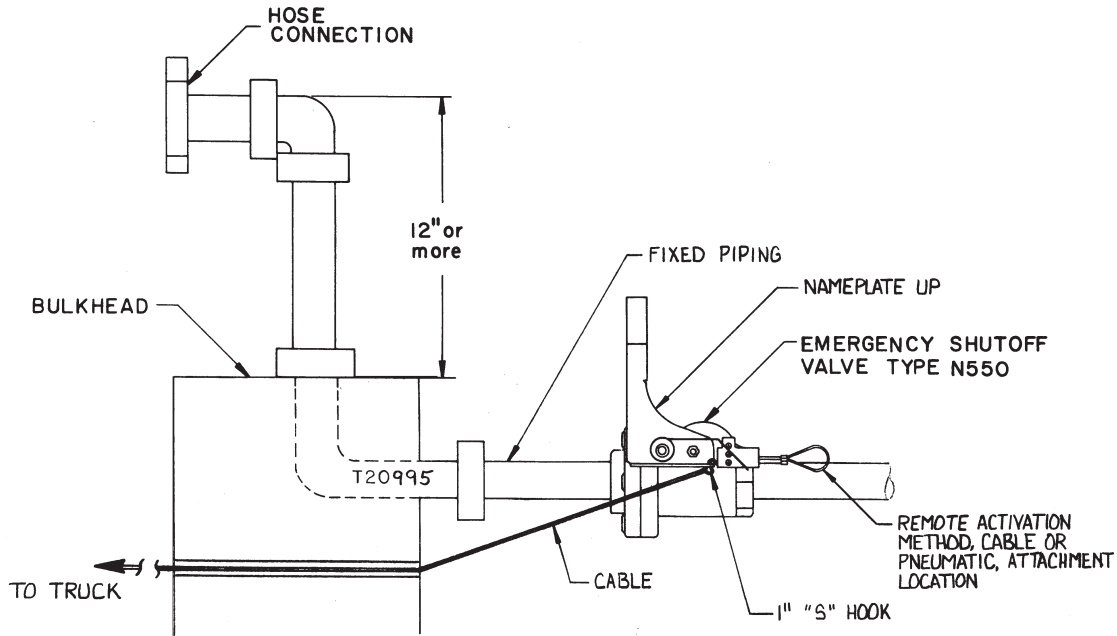

Figure 5. Motion Release Cable Installation (Optional)
1. Connect a suitable release cable such as stainless steel aircraft cable to a standard “S” hook. Attach the “S” hook to the N550 handle as shown in Figure 5.
2. The cable should run through the bulkhead just below and to the side of the pipe. The cable should be in line with the operating lever, refer to Figure 5.